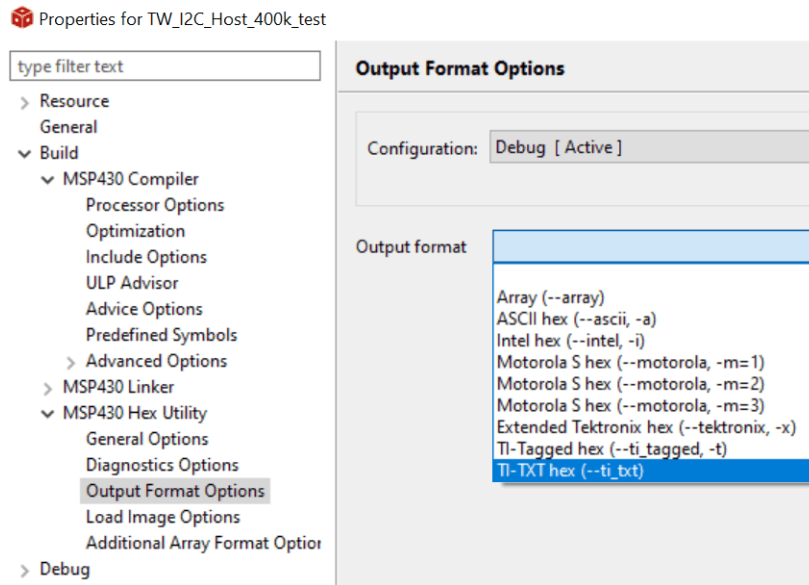

Figure 2-6. Generate TI-TXT Hex File in CCS
5. Prepare the target device firmware in TI-TXT hex format (see Figure 2-6).